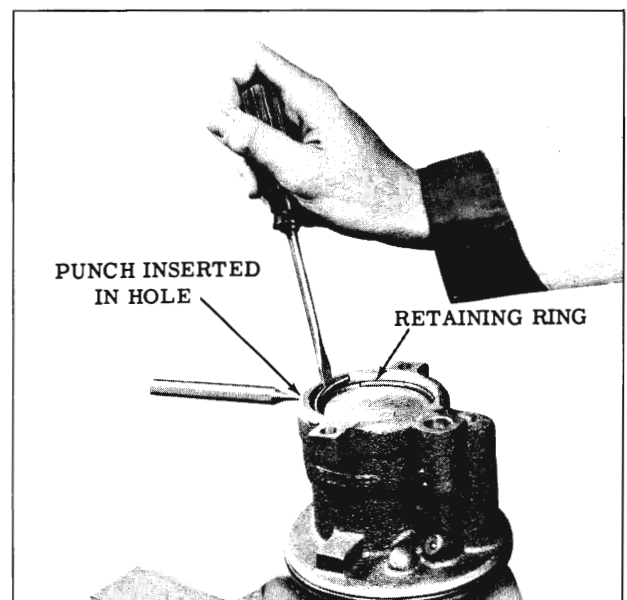

Fig. 4-26 Removing End Cover Retaining Ring
6. Rotate the end cover retainer ring so that one end of the ring is over the hole in the side of body, then force end of ring from its groove and remove ring. (Fig. 4-26)